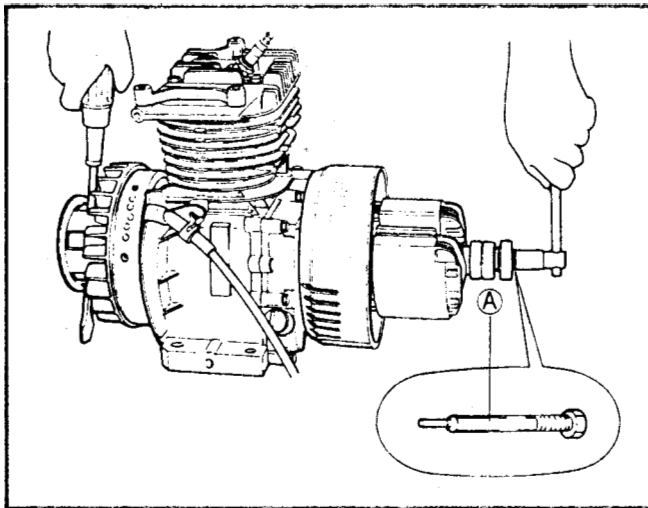

Figure 68
23. Use a rotor remover bolt (see the Special Tool Section on page 19 for the correct part number) to remove the rotor assembly. The rotor is secured to the crankshaft of the engine with a tapered fit. The crankshaft has an external taper and the rotor has an internal taper. See Figure 68.